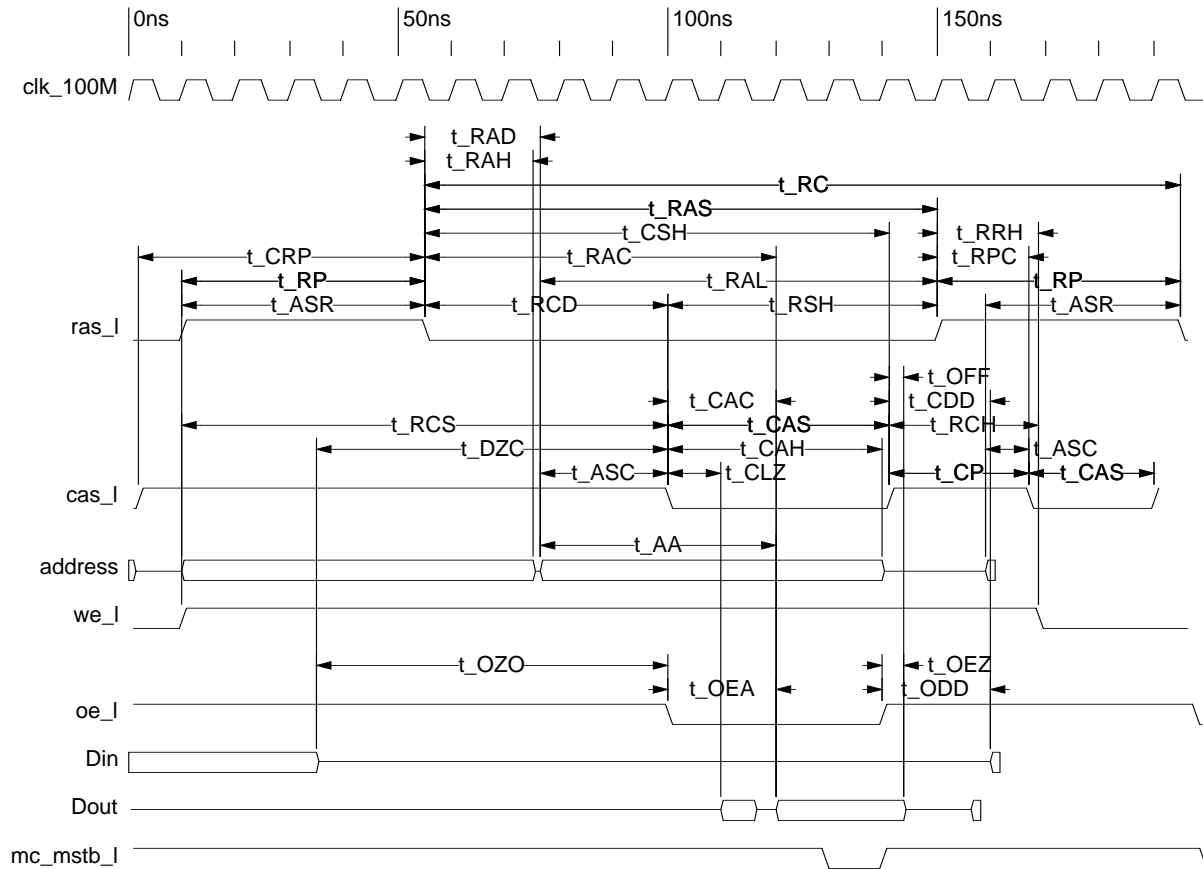
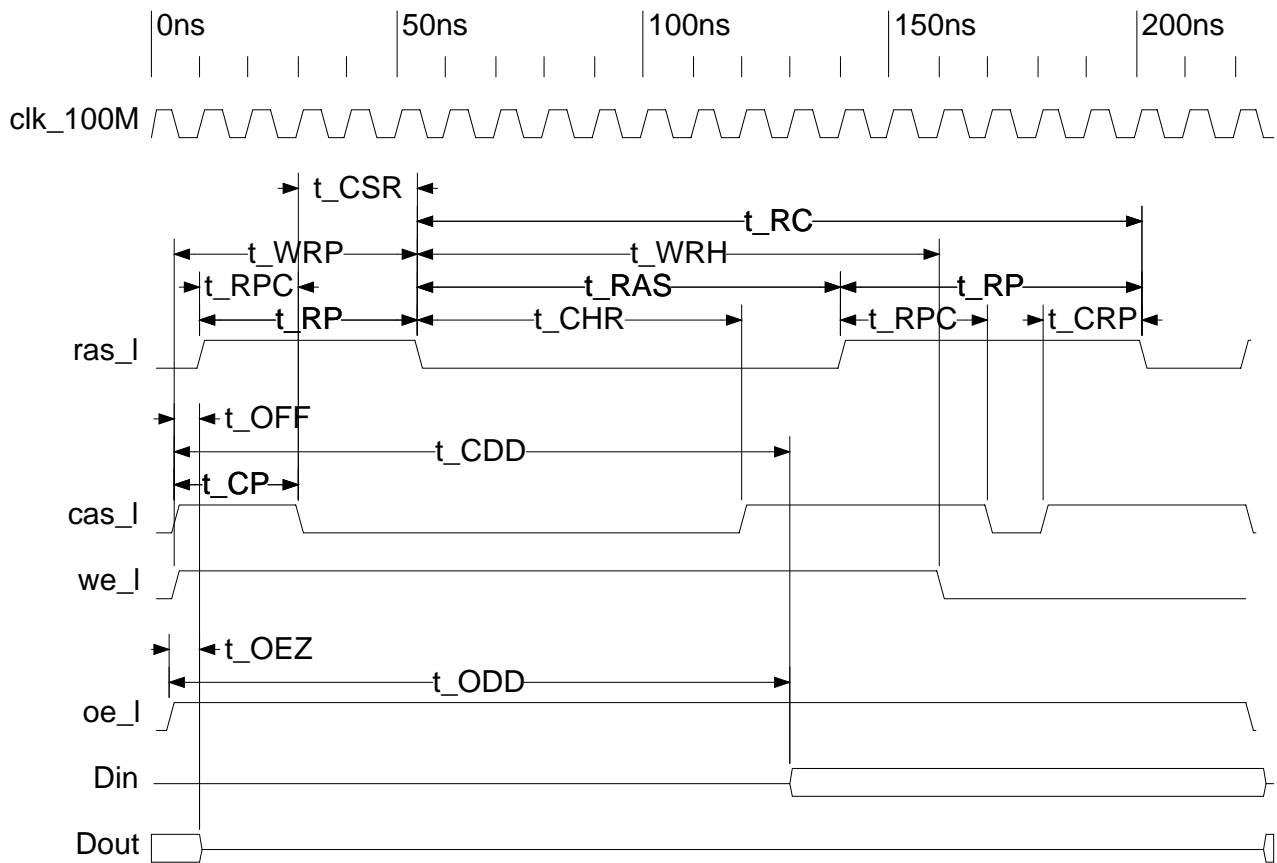

Figure 4. DRAM Read Cycle (100 MHz Clock)
Figure 13. DRAM RAS-Before-CAS Refresh Cycle (100 MHz Clock)
1. The timing diagrams in Figure 4 through Figure 13 reflect a SP\_SEL[2:0] of 010 for 100 MHz operation.